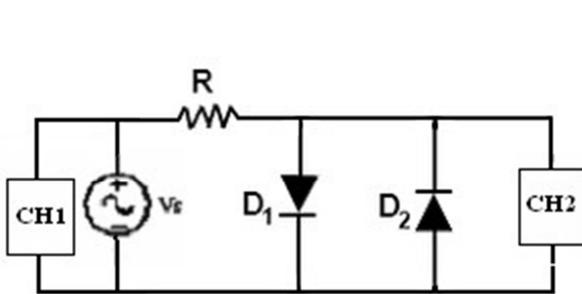

Figure.9
- 1- Construct the circuit shown in Figure 9, where the supply V_S is sinusoidal signal with $8V_{pp}$, 100Hz and $R=1k\Omega$.